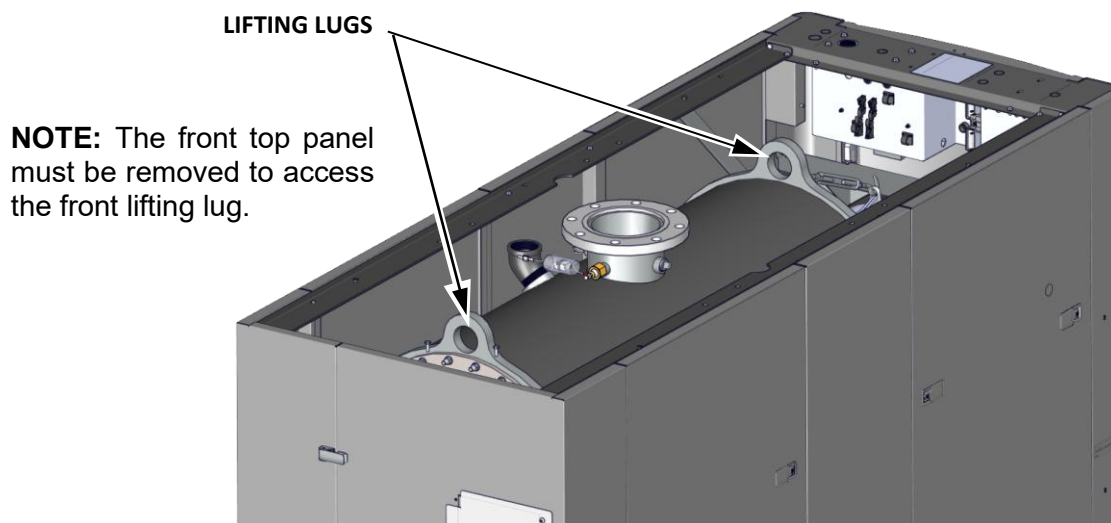

Figure 2-4c: Lifting Lug Locations – BMK5000 & 6000
Two (2) lifting lugs are provided at the top of the primary heat exchanger (see Figure 2-4c). The location of the lifting tabs is marked on the shrink-wrap covering the unit for shipping.